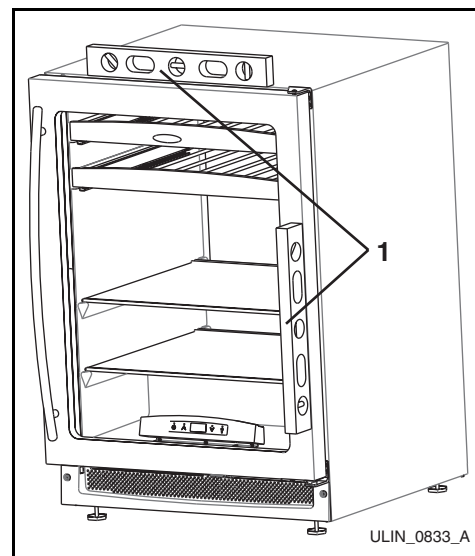

Figure 11
4. Clean the condenser coil (**Figure 11, 2**) using a soft brush with a “combing” action or vacuum cleaner. Do not touch the condenser coil.
1. Use a level to check the levelness of the unit from front to back and from side to side. Level should be placed along top edge and side edge as shown (**Figure 11**).